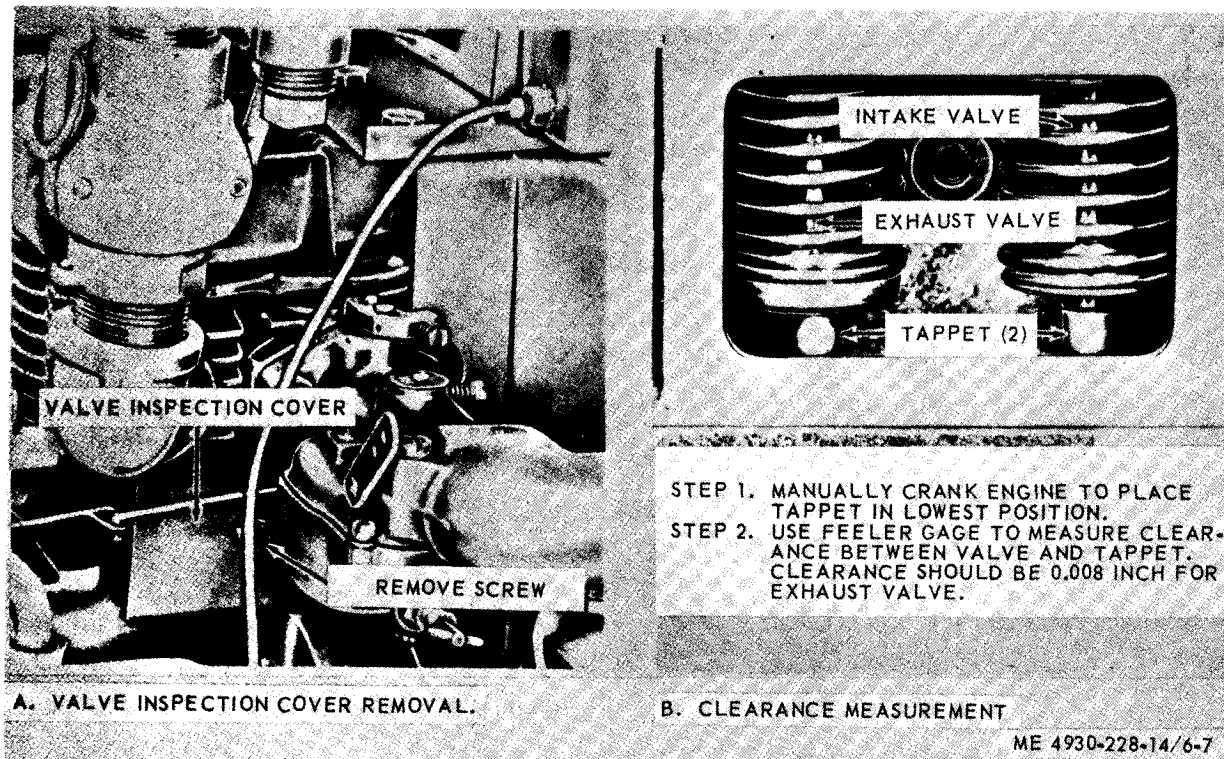

Figure 6-7. Valve inspection cover removal and valve clearance measurement.
a. *Removal.* Refer to figure 6-7 and remove the valve inspection cover.
(1) Clean the cover and accessible metal parts with cleaning solvent and dry thoroughly.
(2) Measure valve clearance (fig. 6-7) and inspect for defective valve springs, tappets, rotators, and seats.
c. *Installation.* Refer to figure 6-7 and install the valve inspection cover in reverse order of removal.